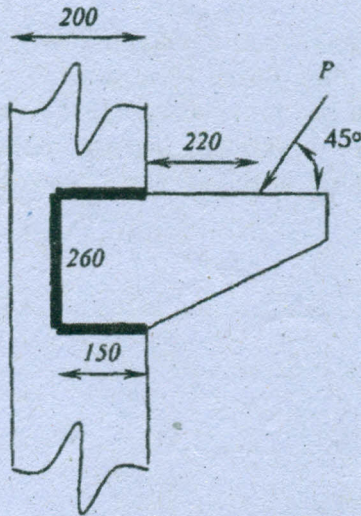

Fig. Q13a
13. (a) Determine the maximum load  $P$  that could be resisted by the bracket shown in fig. Q13a. Size of the fillet weld is 6 mm. Thickness of the bracket is 10 mm. Use shop welding and ultimate strength of the weld material is 410 MPa. All the dimensions are in mm.